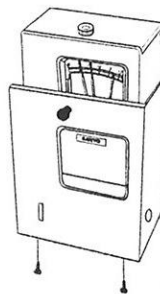

Fig. 2
4. Attach the temperature recorder (MTR-4014LH) to the recorder fixture (MPR-S30: optional component) by using the enclosed screws. (Fig. 2)